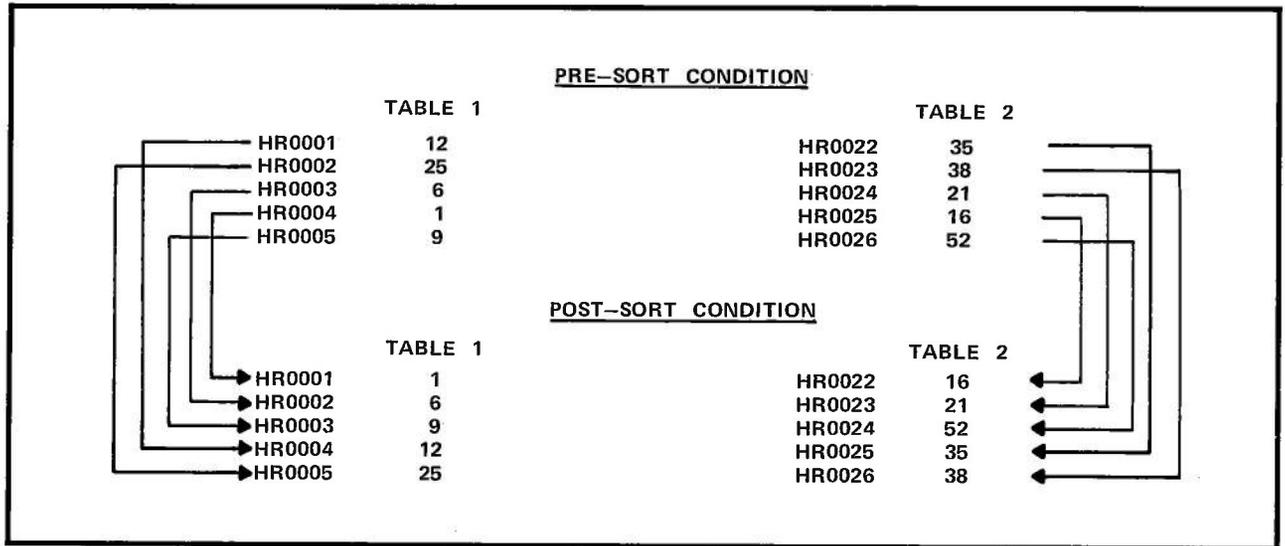
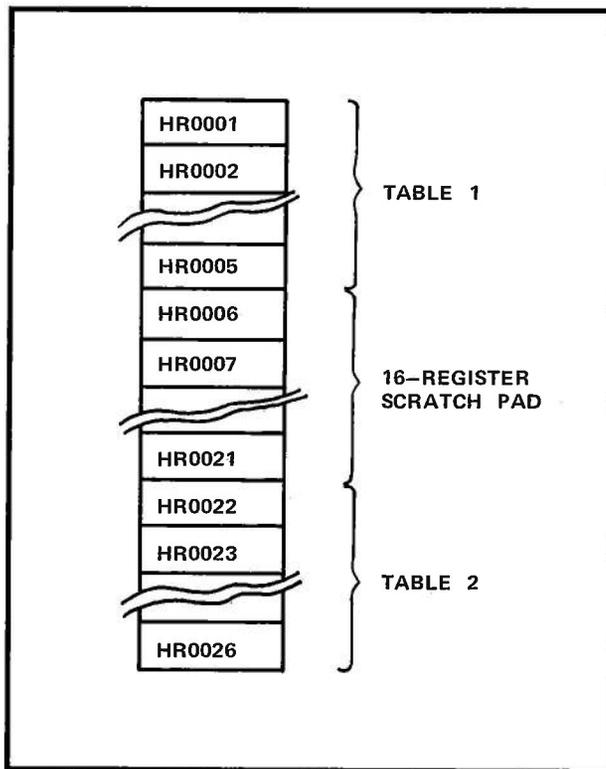

Figure 2. Sorted Holding Registers
Figure 3. Holding Registers Arrangement
The AM function is used to perform a masking operation. If, for example, the register in Figure 2 is to be masked, it is desired that only the lower-eight bits of HR0001 be transmitted to
Data from a companion table is paired with data in the same relative position in the table being sorted. (See Figure 2.) A total of 16 extra holding registers is required for "scratch pad" purposes. The scratch pad is located in the 16 registers following Table 1. The holding registers in Figure 2 are arranged as shown in Figure 3.
Message information is stored in the format shown in Figure 2. The processor sends a maximum of six ASCII characters per scan. If a special operation (B) code is encountered, the processor stops transmitting the ASCII characters in the present scan, even if less than six ASCII characters have been sent. The B code is implemented on the next scan and must be stored in the high byte. The length of the message is limited only by the number of registers available in the processor.